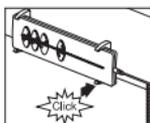

fig. 1
- Place the clamp on the underside of the side panel of the surround (see fig. 1).